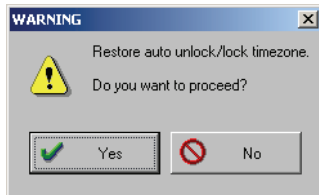

Figure 6-17: Restore Auto Unlock/Lock Confirmation
2. Click on the  button, and then click on the  button. A confirmation window appears (see Figure 6-17).